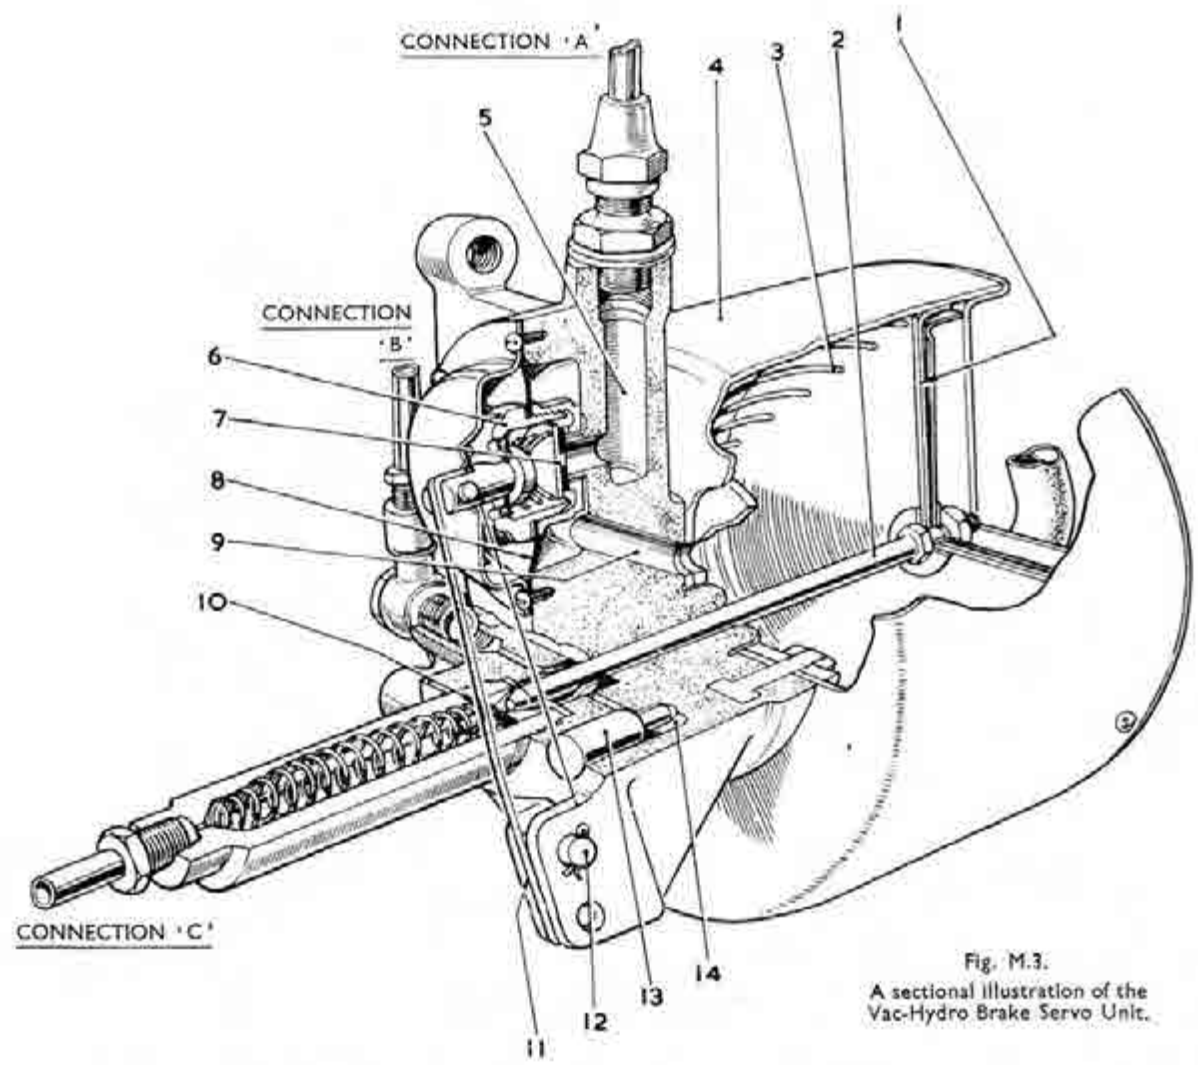

Fig. M.3.
- (a) Earlier models lubricated with castor oil and brake fluid. Stand the unit with the hydraulic cylinder upright and allow the fluid to drain from the vacuum cylinder through the breather pipe in the end cover. (See Fig. M.3). Service the cylinder and piston leather as detailed in Section M.14, paragraph 3, *Remedy*.